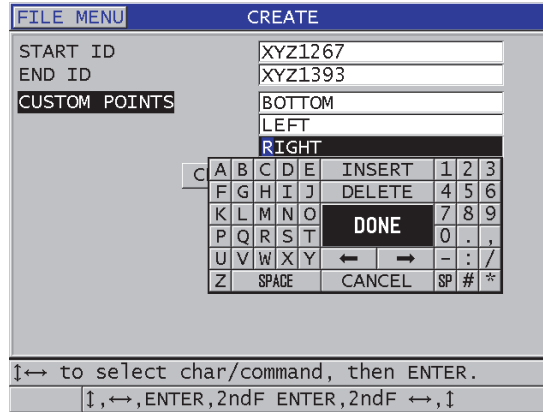

Figure 11-6 Configuring the ID range for a sequential with custom points data file type
3. In the second page of the **CREATE** screen (see Figure 11-6 on page 190):